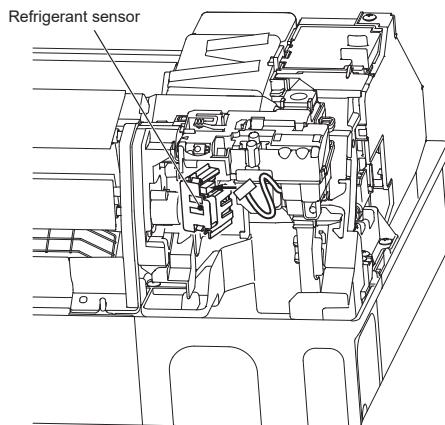

Fig. 2
- 3) Connect the lead wire to refrigerant sensor. (Fig. 2)